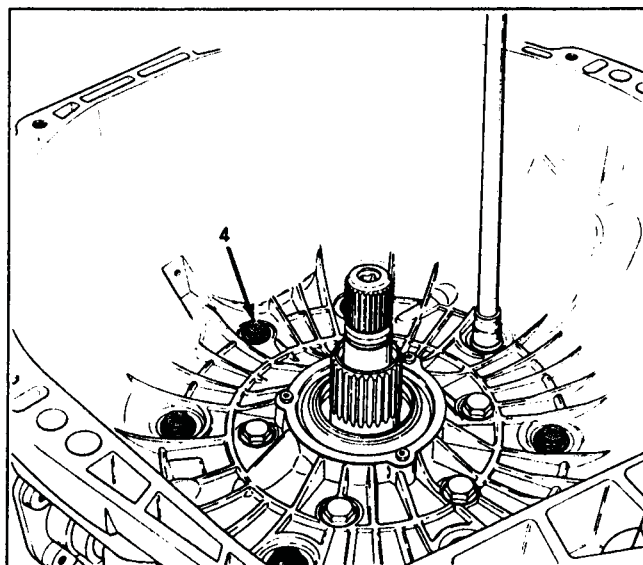

Figure 110
39. Using a 13mm socket, torque the seven converter housing bolts to 29 ft.lbs. using an alternating pattern. (See Figure 110).